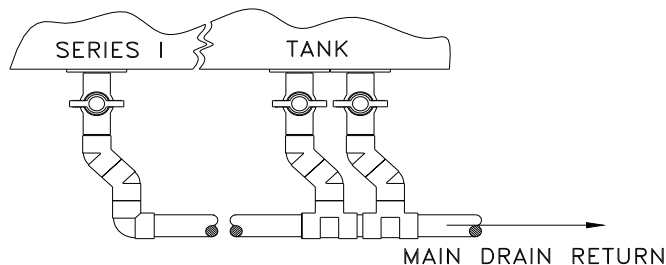
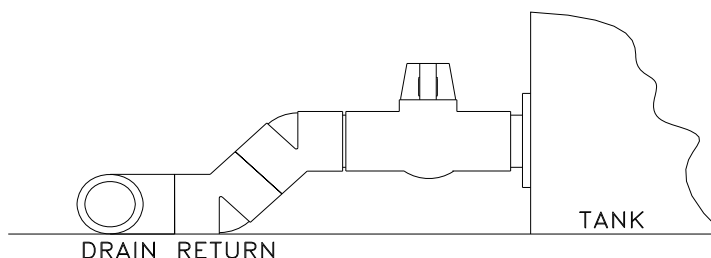

Figure TNK-2
Figure TNK-3
- C. Attach three 1-1/2" **BALL VALVES** with 1-1/2" pipe and connect to the **DRAIN CONNECTIONS** (labeled S1D-1, S1D-2, S1D-3 on the P&ID Diagrams). Plumb the tank drains to the main drain return line as shown in (Fig. TNK.2-TNK.4). Note: Piping and fittings for the main drain return line are not supplied. First, glue both 45° 1-1/2" fittings together as shown in (Fig TNK.2) on a flat surface. Before gluing the 45° fittings into the 1-1/2" tee, rotate 45° sub-assembly to the floor as shown in (Fig. TNK.3). Glue total assembly into place. Connect each drain valve assembly together and lead to the main drain return. This procedure holds the drain valves square with the tank and reduces stress to the pipe by keeping the pipe on the deck instead of elevated.